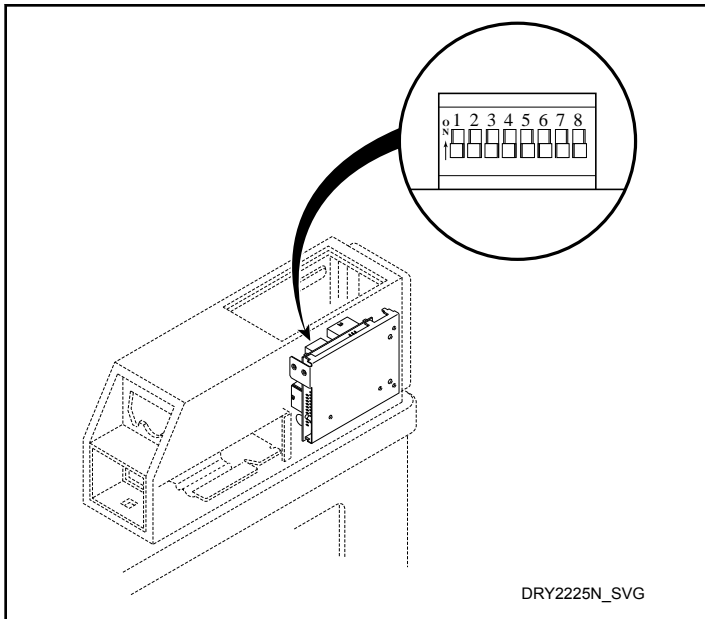

Figure 35
To change the dry time on the dryer, combinations of dipswitches can be set on the control. Refer to *Figure 35*.
2. Record the machine control dipswitch settings. Then set them all to the off position. Refer to *Figure 35*.